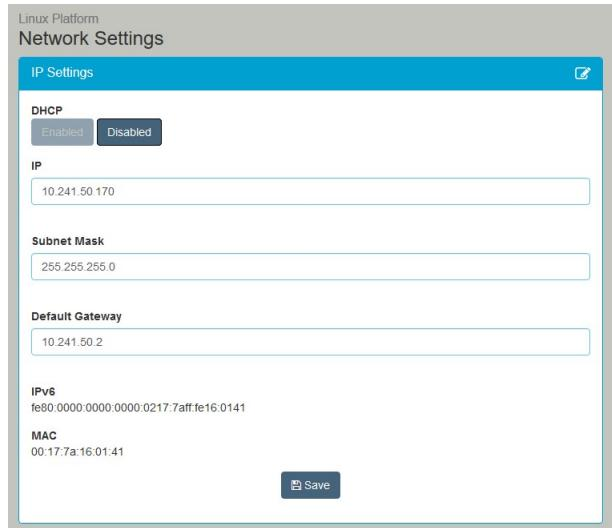

Figure 29
4. At **IP**, enter the desired static IP address; see example in Figure 29.